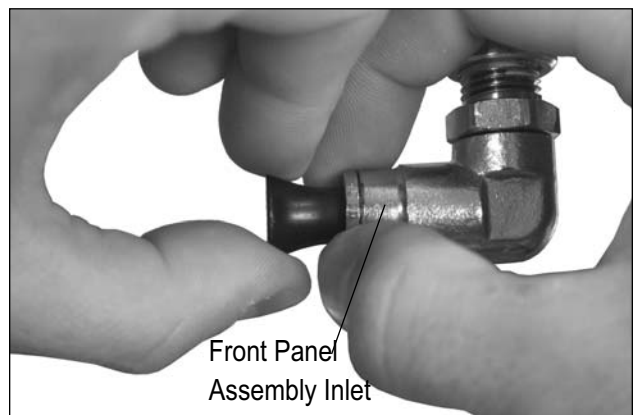

Figure 5
2. Remove port plug from left inlet connector (if no remote is used) and front panel assembly inlet. To remove, push port plug into connector until it bottoms out. Then, while holding down collet, withdraw port plug (Figure 5).